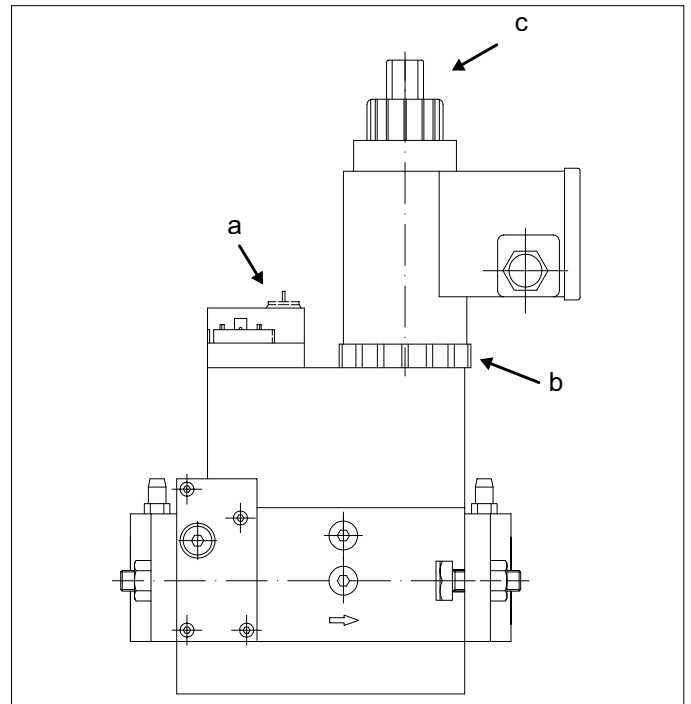

fig. 09 Dungs MB-ZRDLE 410/412 B01 S52
12. Set the correct **full load burner pressure** by means of the pressure regulator on the gas multiblock gas valve (see fig. 09, pos. a).
- Set the part load burner pressure by turning the adjustment ring (*fig. 09, pos. b*).
- Remove the setting cap (*fig. 09, pos. c*) and turn it upside down on the hydraulic brake.